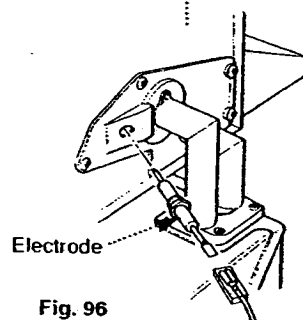

Fig. 96
1. Disconnect the spark electrode lead at the electrode (Fig. 96).
2. Unscrew the electrode from the manifold and withdraw the electrode (Fig. 96).